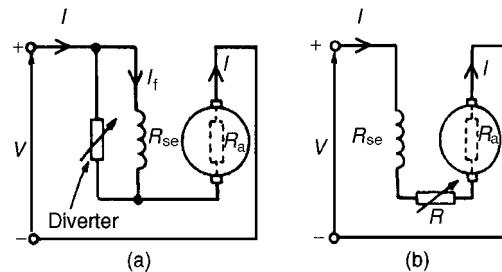

Figure 22.30
where \$k\$ is a constant, \$V\$ is the terminal voltage, \$R\$ is the combined resistance of the armature and series field and \$\Phi\$ is the flux. Thus, a reduction in flux results in an increase in speed. This is achieved by putting a variable resistance in parallel with the field winding and reducing the field current, and hence flux, for a given value of supply current. A circuit diagram of this arrangement is shown in Fig. 22.30(a). A variable resistor connected in parallel with the series-wound field to control speed is called a **diverter**. Speeds above those given with no diverter are obtained by this method. Problem 29 below demonstrates this method.
- (b) Speeds below normal are obtained by connecting a variable resistor in series with the field winding and armature circuit, as shown in Fig. 22.30(b). This effectively increases the value of R in the equation
With the 0.2 Ω diverter in parallel with R_{se} (see Fig. 22.30(a)), the equivalent resistance,
$$I_1 \text{ (in Fig. 22.30(a))} = \left(\frac{0.2}{0.2 + 0.05} \right) I = 0.8I$$
With reference to Fig. 22.30(b), at 800 rev/min,